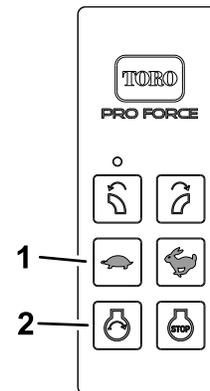

Figure 18
2. To switch the light ON or OFF, press the handheld remote buttons (Figure 18) in the following sequence: